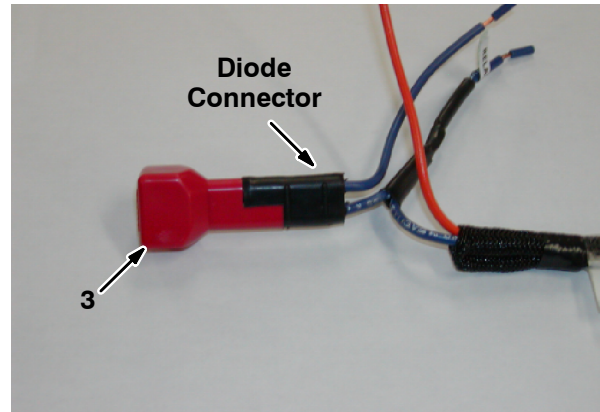

FIG. 3
27. Plug the diode plug (3) into the diode connector attached to the timer start harness (1) if diode plug is not already attached to the connector. Refer to Fig. 3.